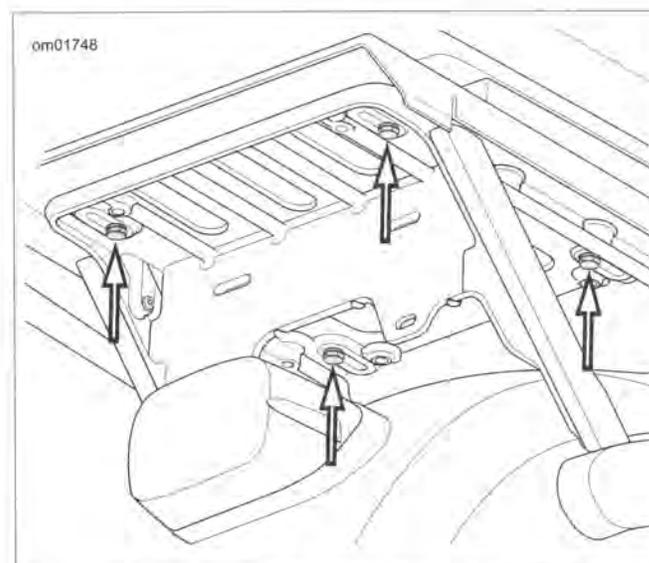

Figure 2-121. Tour-Pak Bracket Screws (APC Models)
3. **APC models:** See Figure 2-121. Remove four screws and flat washers to release adapter from support.
4. **APC models:** See Figure 2-121. Secure adapter and Tour-Pak to support with four screws and flat washers. Tighten to 60-72 in-lbs (6.8-8.1 Nm).